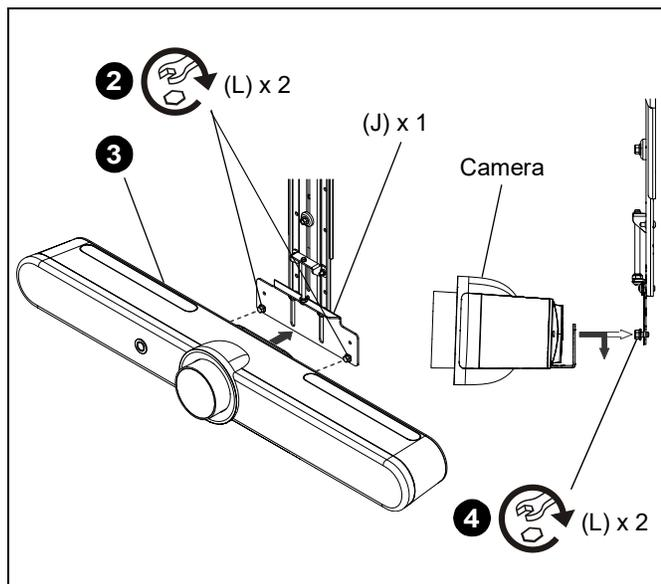

Figure 21
2. Reinstall two 1/4-20 x 3/8" hex head screws (L) to lower holes in lower adjustment assembly (J) leaving approximately 1/8" of the threads exposed. (See Figure 21)
3. Hang interface brackets (K) on camera onto exposed screws on lower adjustment assembly (H).
4. Tighten both 1/4-20 x 3/8" hex head screws (L) to secure camera to lower adjustment assembly (J). (See Figure 21)